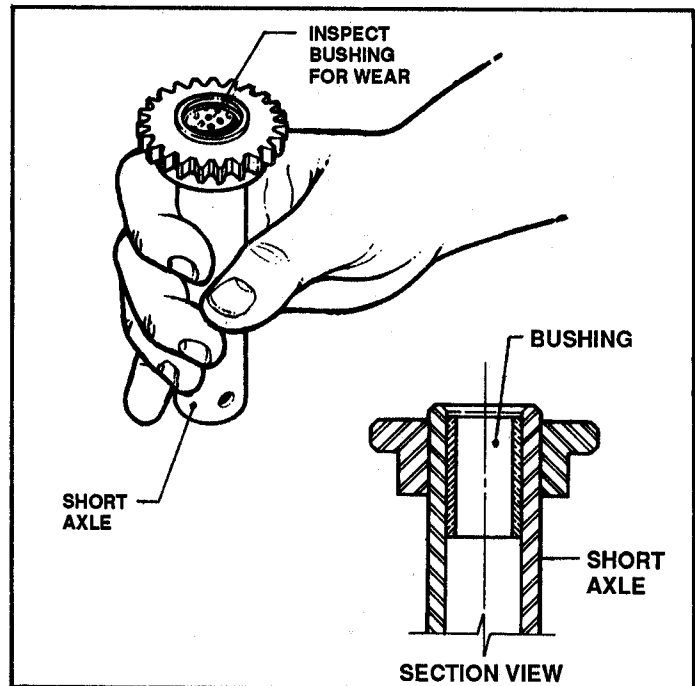

FIGURE 4.22A
4. Inspect bushing in short axle for wear. If worn excessively, replace short axle assembly. See Figure 4.22A.